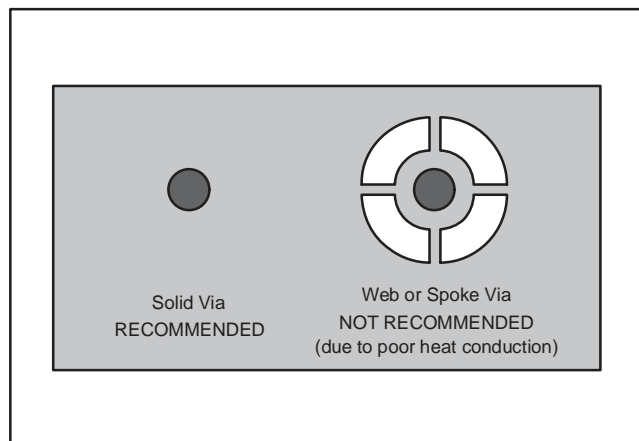

Figure 12. Internal ESD Protection
6. When laying out these holes, do not use the typical web or spoke via connection methodology, as shown in Figure 12. Web connections have a high thermal resistance connection that is useful for slowing the heat transfer during soldering operations. This makes soldering the vias that have ground plane connections easier. However, in this application, low thermal resistance is desired for the most efficient heat transfer. Therefore, the holes under the PowerPAD package should make their connection to the internal ground plane with a complete connection around the entire circumference of the plated-through hole.